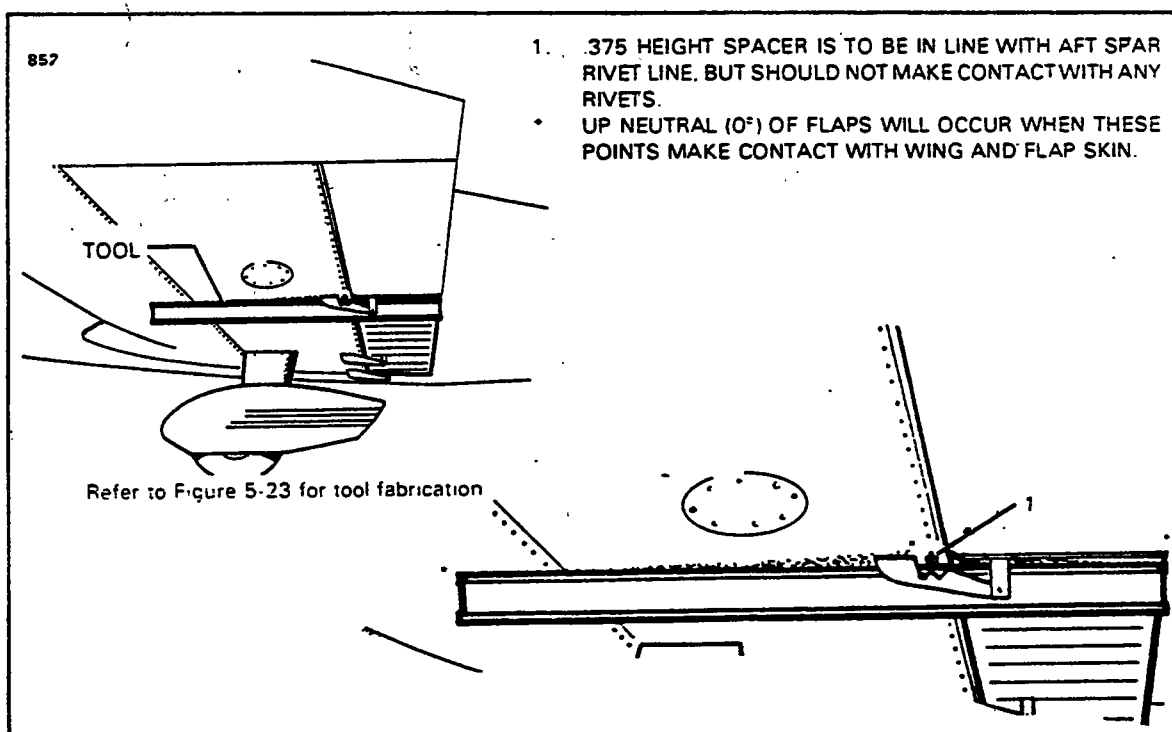

Figure 5-20. Flap Rigging Tool
g. To check up-neutral position of the flaps, place a flap rigging tool as shown in Figure 5-20 against the underside of the wing and flap as close as possible to the outboard end of the flap without contacting any rivets. The tool must be positioned parallel with the wing ribs with the aft end of the tool even with the trailing edge of the flap. (This tool may be fabricated from dimensions given in Figure 5-22.)